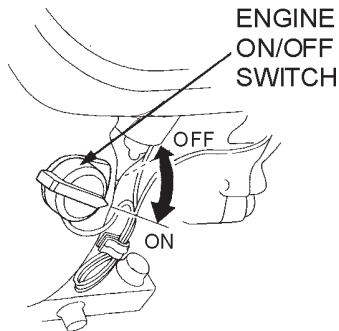

Figure 11. Engine ON/Off Switch (ON Position)
2. Place the **Engine ON/OFF switch** (Figure 11) in the **ON** position.
6. If the engine has started, slowly return the choke lever (Figure 11) to the **CLOSED** position. If the engine has not started repeat steps 1 through 5.